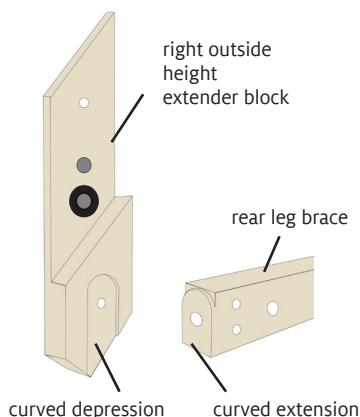

FIGURE 2: FIT OUTSIDE BLOCK ONTO REAR LEG BRACE
4. Fit the curved extension of the rear leg brace into the curved depression of the RO height extender block (Figure 2).